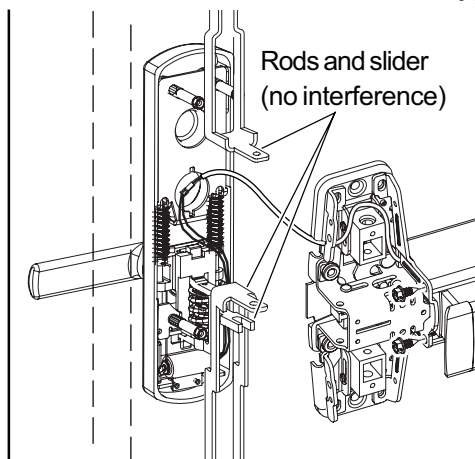

Figure 12-2
12.2. Route wires into corner of the cutout near post. Push the wires down into the door to ensure they do not contact the slider (Figure 12-2).
Note: For 98/9947 device, hold trim in door and lift center case away from the door surface while rods and trim remain in place. Route wiring as shown in Figure 12-2. Verify that the wires do not get wrapped around or pinched in rods or slider, then align center case and attach rods.